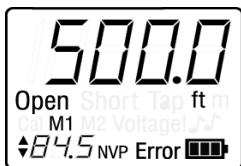

Figure 7. Error Message in Calibration Mode
- The "Error" message blinks at the bottom of the LCD display screen (see Figure 7).